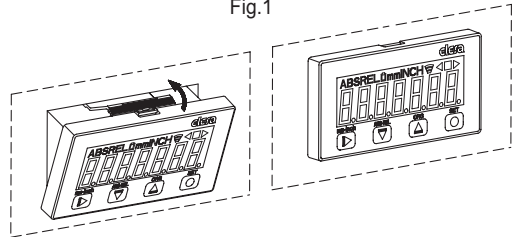

Fig.3
- Unscrew the AISI 304 stainless steel self-tapping screw with six-lobe socket for TORX® T06 tool and remove the closing plate (Fig.3).